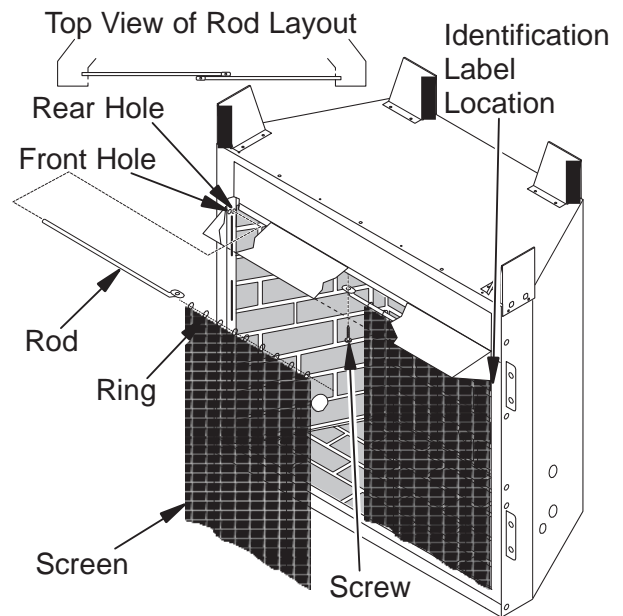

Figure 14 - Installing Fireplace Screen (Model May Vary From Illustration)
4. Insert first rod into rear hole in left side of firebox. Fasten rod to rear hole near center of firebox using #10 x 3/8" Phillips screw provided (see Figure 14).